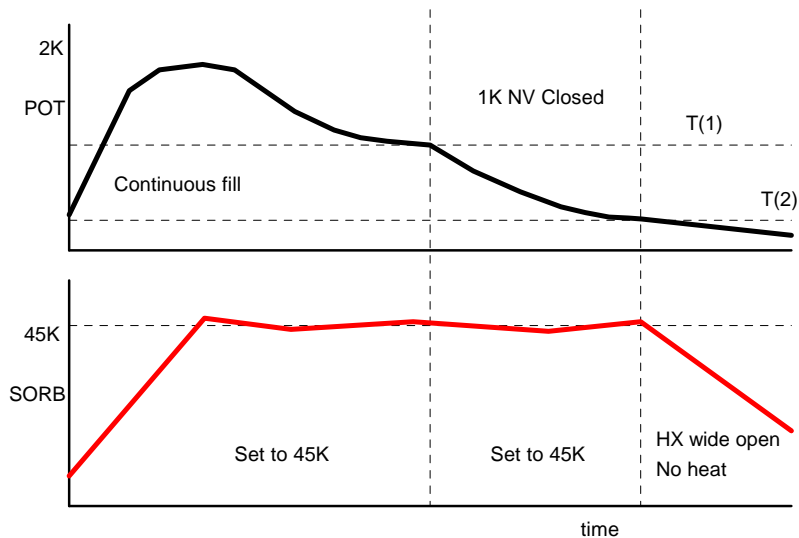

Figure 4 - Sorb and pot temperatures during condensation
In Figure 4, a schematic representation of sorb and pot temperatures is given over the time taken to recondense the ^3He . The temperatures T(1) and T(2) are threshold values defined in the Heliox setup and discussed in more detail in that section.